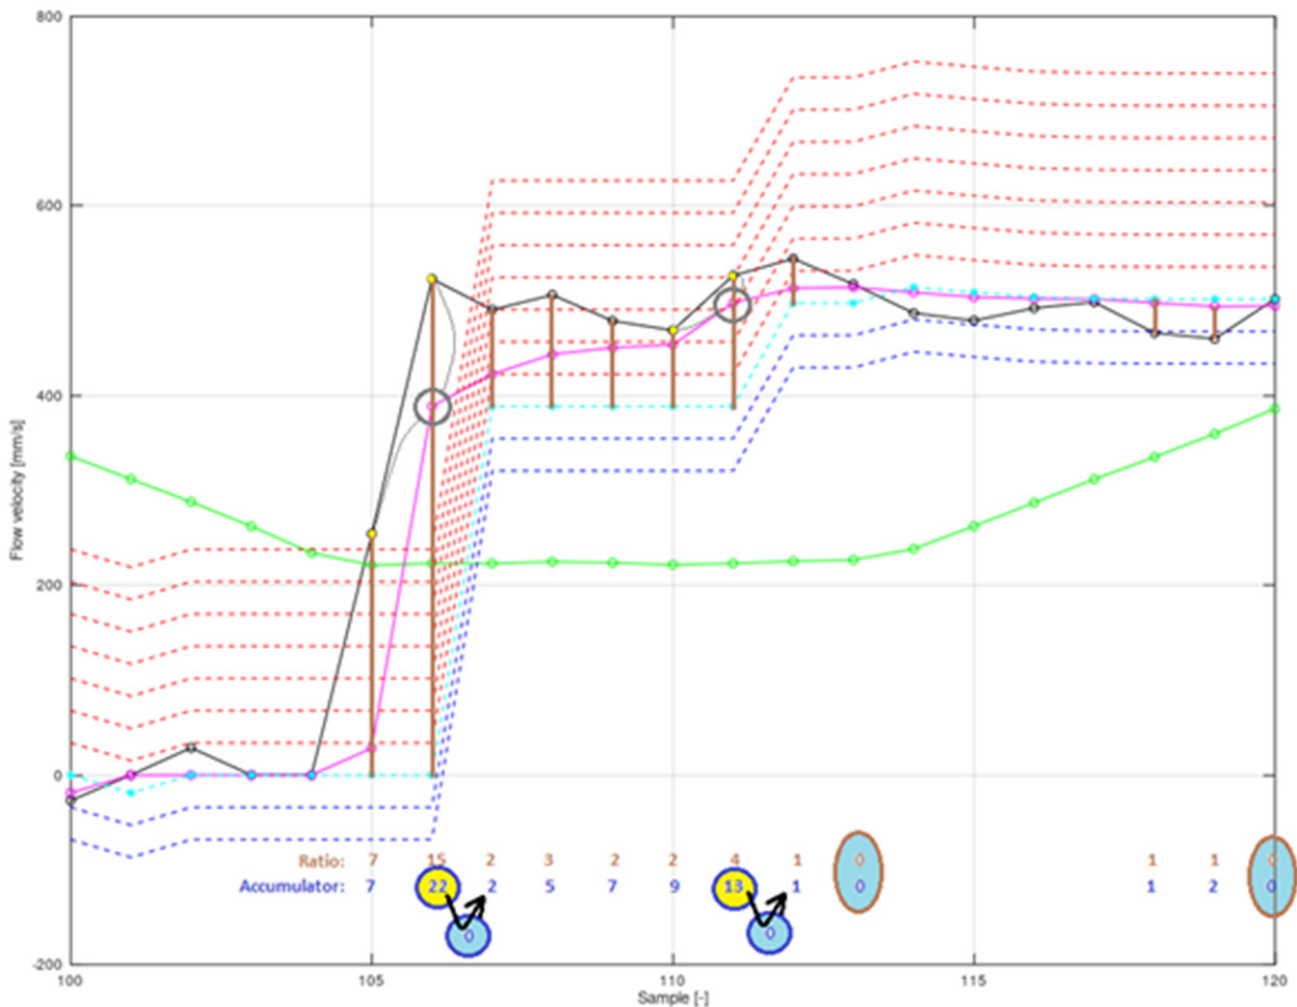

Figure 36: Graph of flow velocity processing and filtering during transition from zero to 500 mm/s
To further explain the functionality of the advanced moving average filter, see Figure 36. The legend for the graph is as follows:
In Figure 36, the standard moving average and advanced moving average filtering is demonstrated during a transition of true flow from standing water state (pump off, zero flow) to constant flow about 500 mm/s (pump on). Sampling rate was set to 15 s (recommended battery mode) and flow sensor used was DN50. The black curve shows raw measured flow velocity without filtering, the green curve corresponds to filtration by the standard moving averaging (MA) with window length 10. The magenta curve shows application of the advanced moving average filter (AMA) with moving average length 10, and acceleration factor of 10. The graph demonstrates stabilization of measured and filtered flow by the AMA. The standard MA is not suitable for such application, the transition settling is too long. The AMA settling is relatively short, about two samples, if error window length is small.